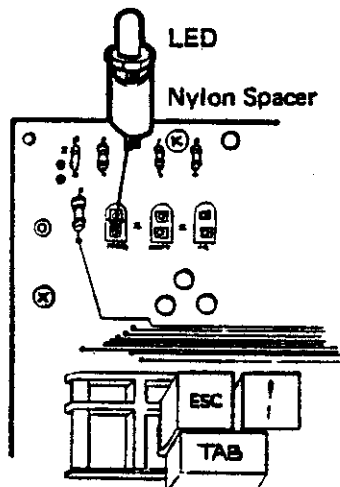

FIGURE 2: LED Installation
Three (3) LEDs will be installed at the locations bearing the call-outs "PROG", "SHIFT" and "UC". Refer to Figure 2 to ensure correct LED orientation.